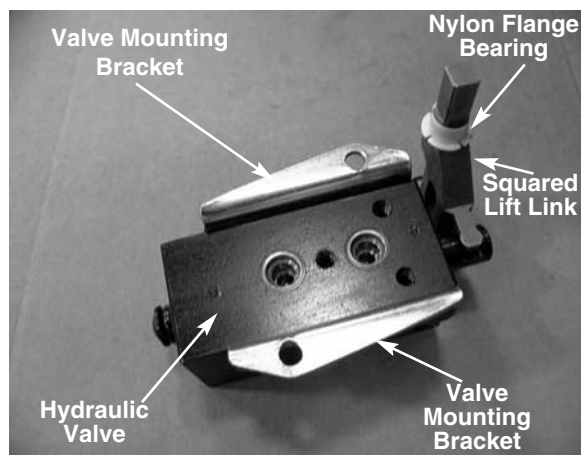

FIGURE 5.
13. Remove the valve mounting brackets. See figure 5.